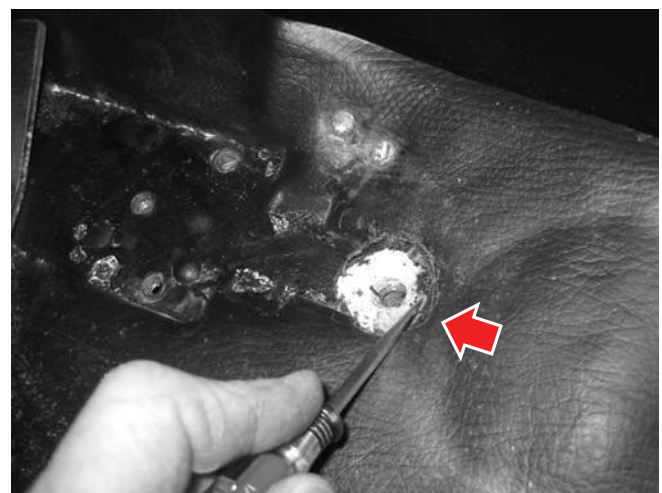

Figure 5-4
7. Scrape off any insulation glued to the sheet metal of the cab floor (see Figure 5-4).